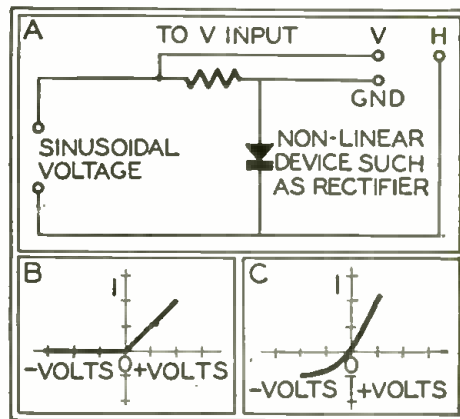

Fig. 8, A—Set-up for producing voltage and current curves. B and C—Curves so produced.
9. Voltage vs. Current Curves: A characteristic curve of current plotted against voltage may be obtained by using the circuit shown in Fig. 8-a, where the impressed voltage of the circuit is applied to the horizontal input and the current in the circuit (as a function of the voltage drop across the series resistor), is applied to the vertical input. For the curve of a resistor, the straight line produced would give the same zero degree phase angle picture as obtained in Step 8 (b). This method may also be used for copper-oxide rectifiers, and for diode and triode tubes. Sample results for the diode are shown in Fig. 8-b, giving a curve with voltage (E_p) shown on the X-axis, and current (I_p) shown on the Y-axis. Fig. 8-c gives the curve for a copper-oxide rectifier. Curves for triodes and other type tubes may also be obtained in this manner.